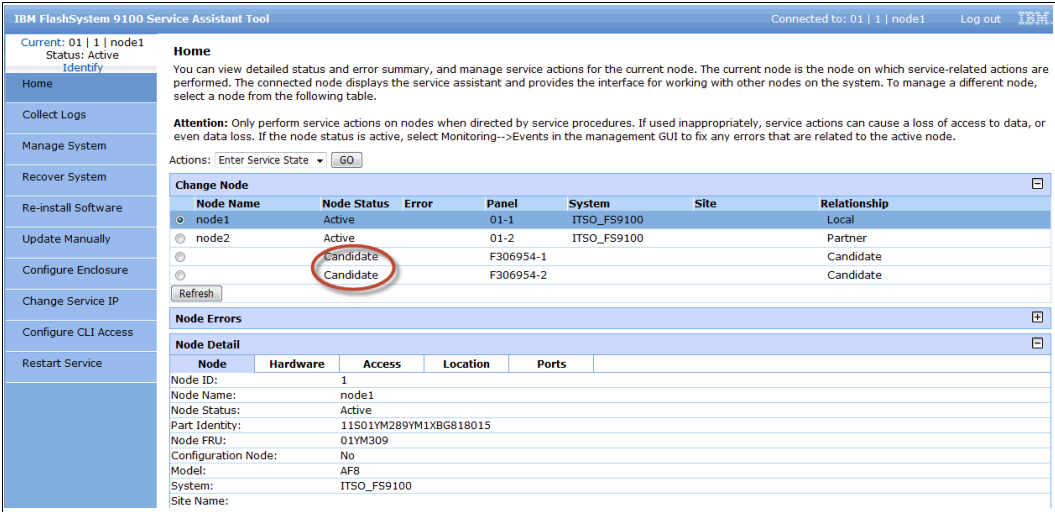

Figure 5-34 View from cluster Service Assistant showing Control Enclosure 1 and 2
4. Using Service Assistant on the cluster IP, the FlashSystem 9100 Control Enclosures 1 and 2 are shown as in Figure 5-34.